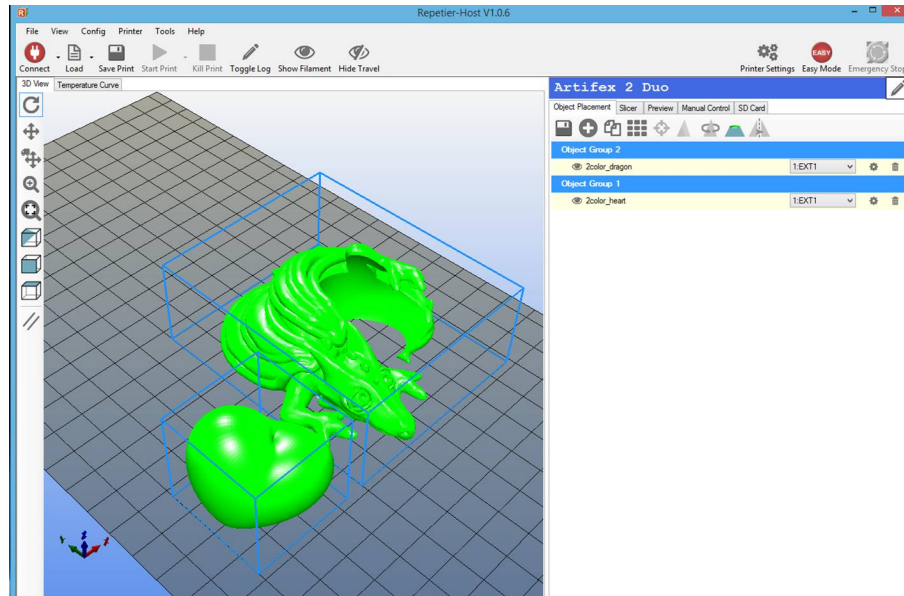

Figure 6.12: Loading two color models into Repetier-Host
- Download the example models from our website, and load them into Repetier-Host (Figure 6.12).